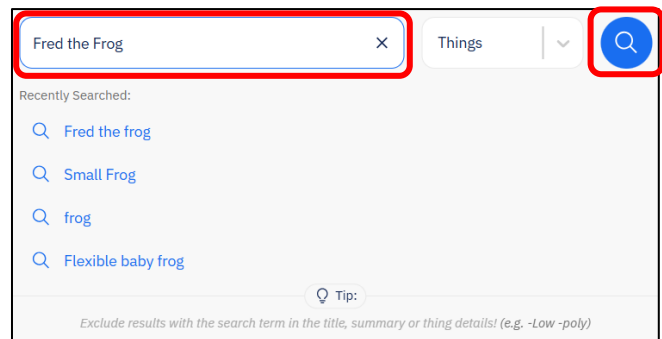

Figure 4: Use keywords or titles to find the perfect model to print.
- 4) Search for keywords relating to what you would like to print. (Figure 4 - A)
- a. Click the magnifying glass icon to search. (Figure 4 – B)